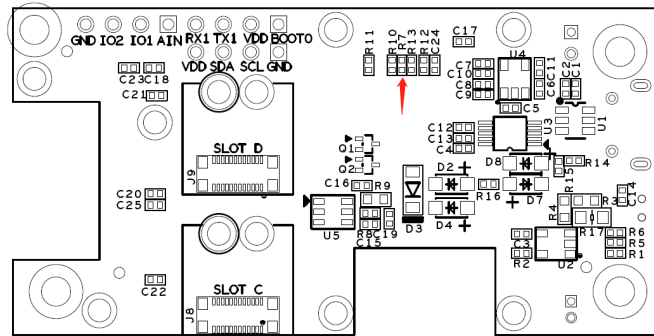

Figure 12: R7 on RAK5005-O
- In RAK5005-O, remove the R7. The R7 resistor is shown in **Figure 12**.
- In RAK5005-O, remove the R7. See Figure 12.